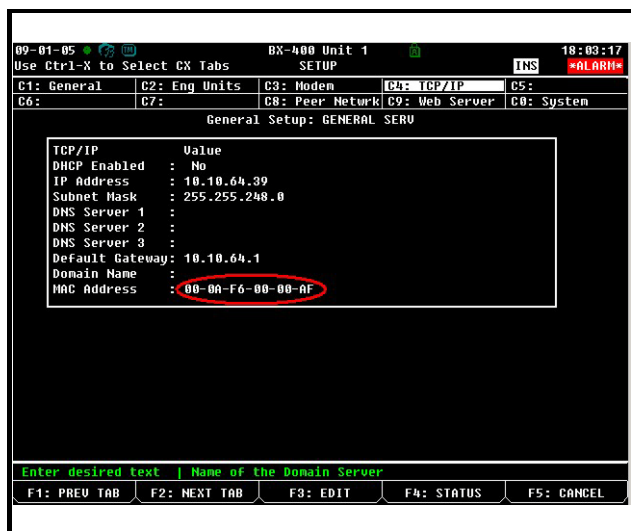

Figure 10-33 - TCP/IP Screen - Locating the Mac Address
3. Press **# 3** (TCP/IP Setup) to open the TCP/IP Setup screen and locate your E2's MAC address (circled in *Figure 10-33*):